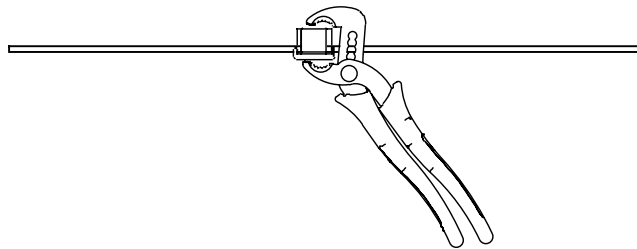

Figure 8
- 13 Connect remaining panels to each driveline using speed whips and pliers as shown in figure 8.